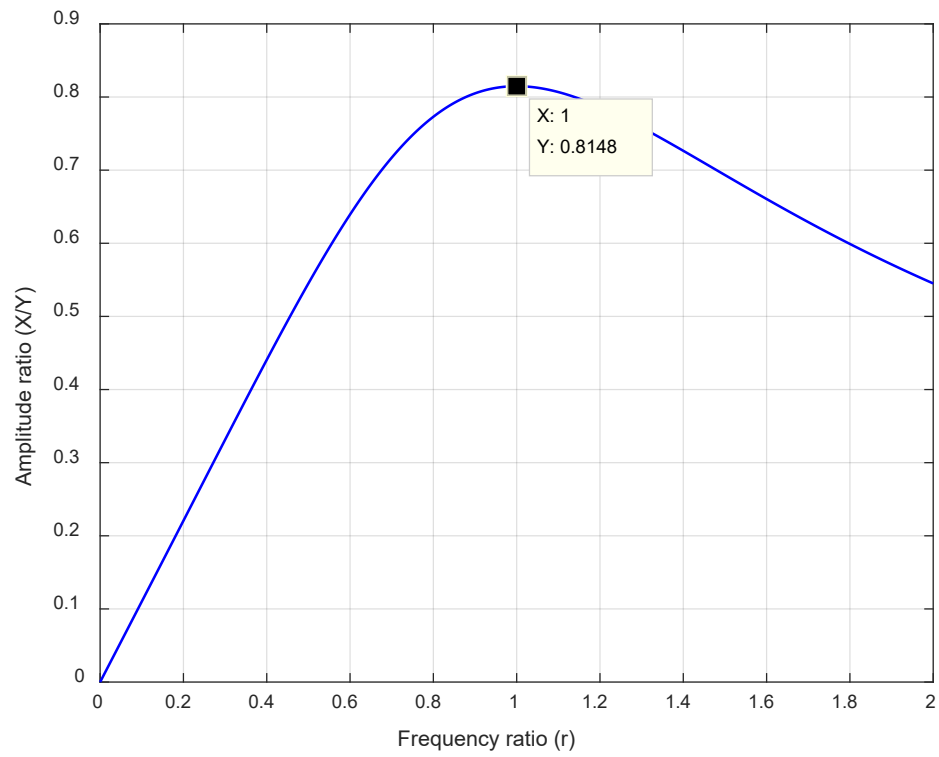

Figure 1 The graph of X/Y vs. r
$$\textcircled{1} \text{ From 1. (1), } \frac{\underline{X}}{\gamma} = \frac{c_1 r}{m \omega_n} \frac{1}{[(1-r^2)^2 + (2\xi r)^2]^{\frac{1}{2}}}, \text{ plot graph } \frac{\underline{X}}{\gamma} \sim r, \text{ shown as Figure 1.}$$